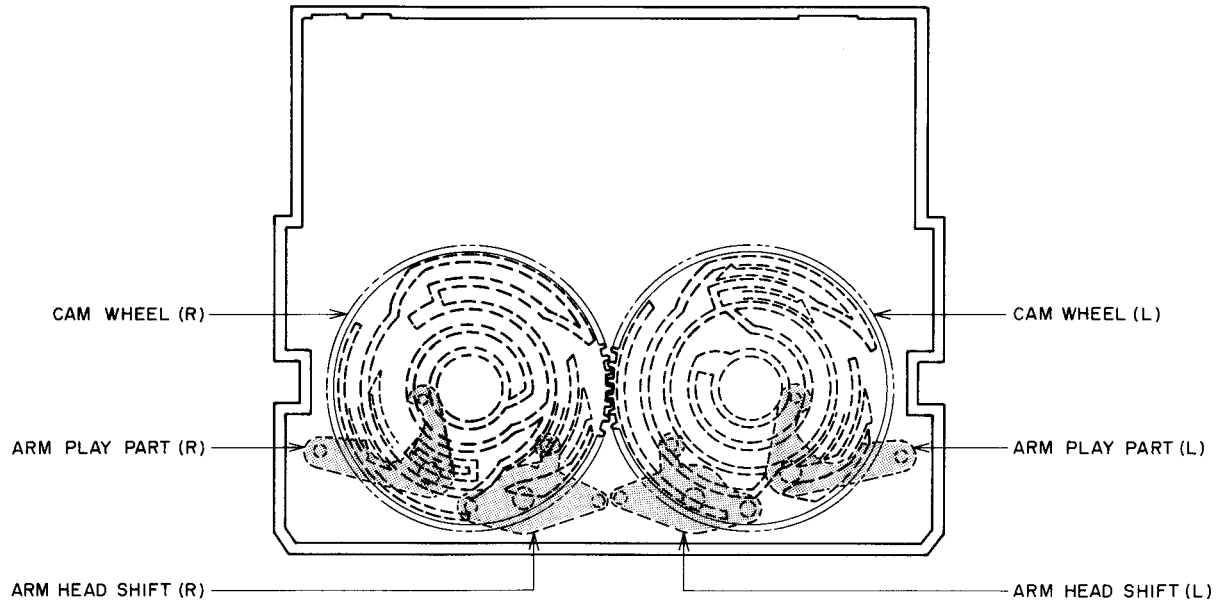

Fig. 6-5 The Location of Arm Head Shift & Arm Play (Inside View)
6-1-4. CAM WHEELS (L) (R) contain grooves to shift 8 mechanical parts shown in Figs. 6-5 & 6-6, which execute all the operations such as;